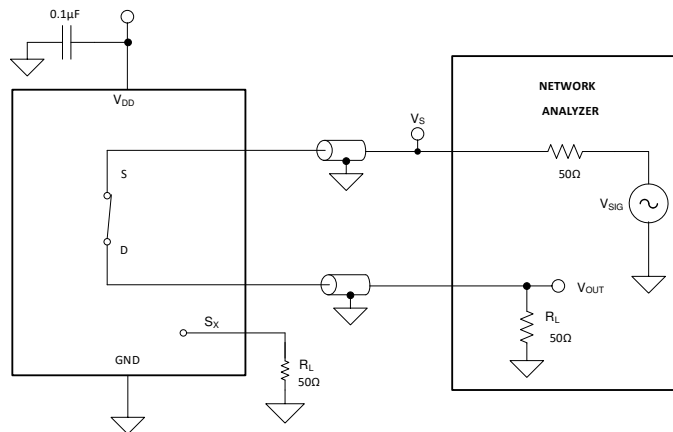

Figure 6-10. Bandwidth Measurement Setup
Bandwidth is defined as the range of frequencies that are attenuated by less than 3dB when the input is applied to the source pin (Sx) of an on-channel, and the output is measured at the drain pin (D) of the device. Figure 6-10 shows the setup used to measure bandwidth.